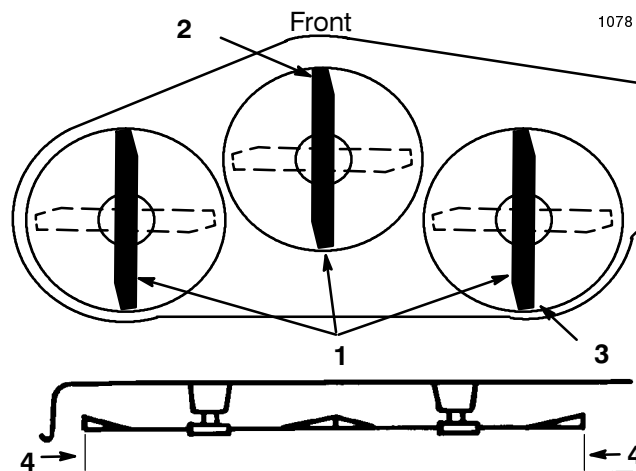

Figure 13
4. Move the height-of-cut lever (deck lift) into the "C" notch and carefully rotate the blades so they are facing front to rear (Fig. 13).
5. Measure between the tip of the front blade (Fig. 13) and the tip of the rear blade to the flat surface. If the front blade tip is not 0-5/16" (0-8 mm) lower than the rear blade tip an adjustment front mower mounting plate at axle (Fig. 13).